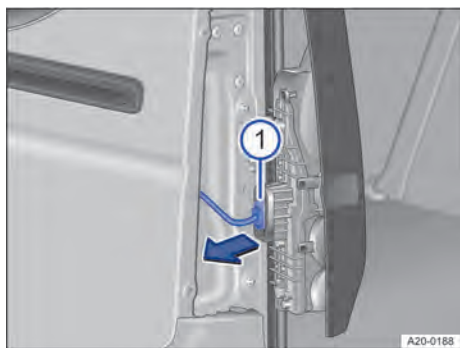

Fig. 175 On the tail light cluster: disconnecting the connector.
① Securing bolt.
1. Pull off the connector in the direction of the arrow → Fig. 175 ①.
4. Plug the connector onto the bulb holder → Fig. 175 ①.